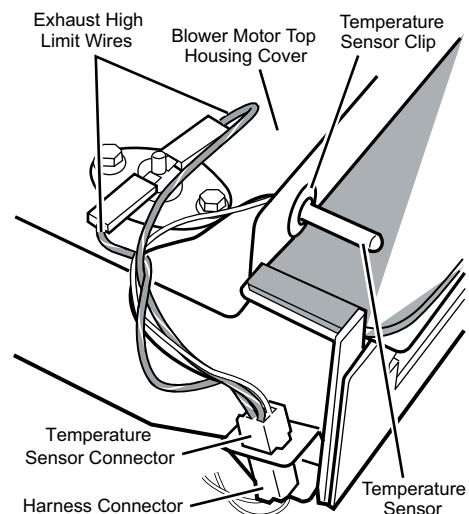

Figure 12. Temperature sensor connections.
- b) Disconnect the two red-silver wires from the exhaust high limit manual reset terminals. See Figure 12.
- a) Unlatch and disconnect the 4-pin harness connector from the temperature sensor connector. See Figure 12.